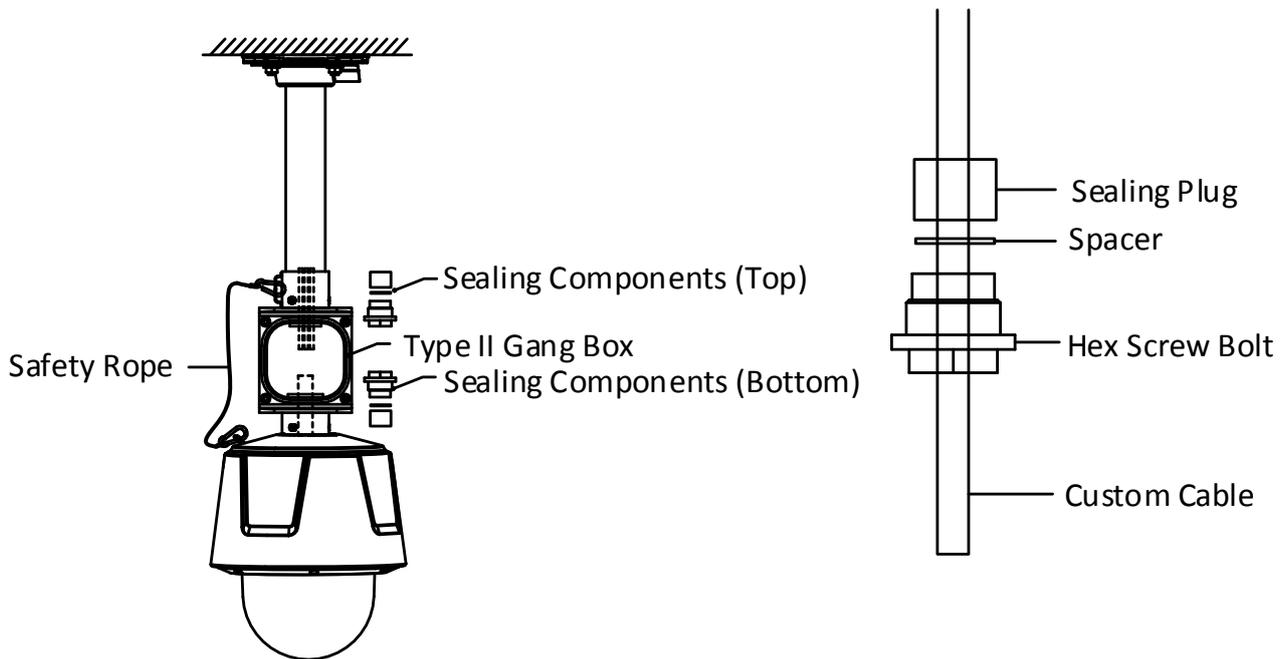

Figure 3-85 Assemble the Type II Gang Box with the Speed Dome
- 7) Insert the sealing components into the gang box in order, as shown in Figure 3-85.